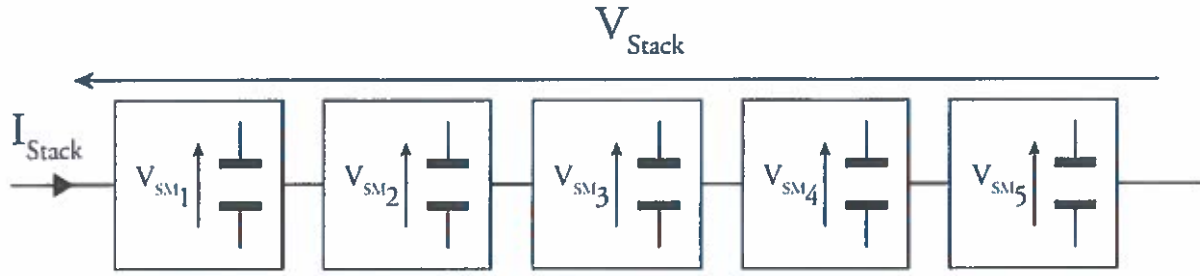

Figure 6.1 – Stack of submodules with pre-charged capacitors
6. For this question, use the symbols, current and voltage directions shown in in Figure 6.1
e) Using the representation of a 5-submodule stack in Figure 6.1 where each submodule is of a full-bridge type, the measured level of charge of the submodule capacitors is: